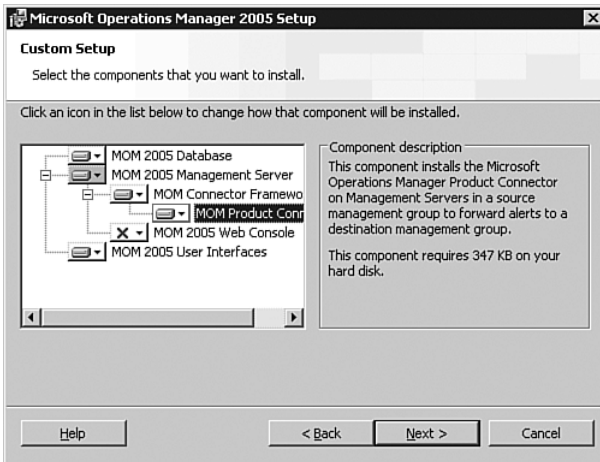

FIGURE 19.5 Custom Setup with the MOM Product Connector selected.
2. At the Custom Setup screen select the MOM Product Connector by left-clicking on the MOM Product Connector drop-down menu and choosing the option to install this component. Figure 19.5 shows the Custom Setup screen with the MOM Product Connector selected. (The MCF and the MMPC can be installed at the same time.)